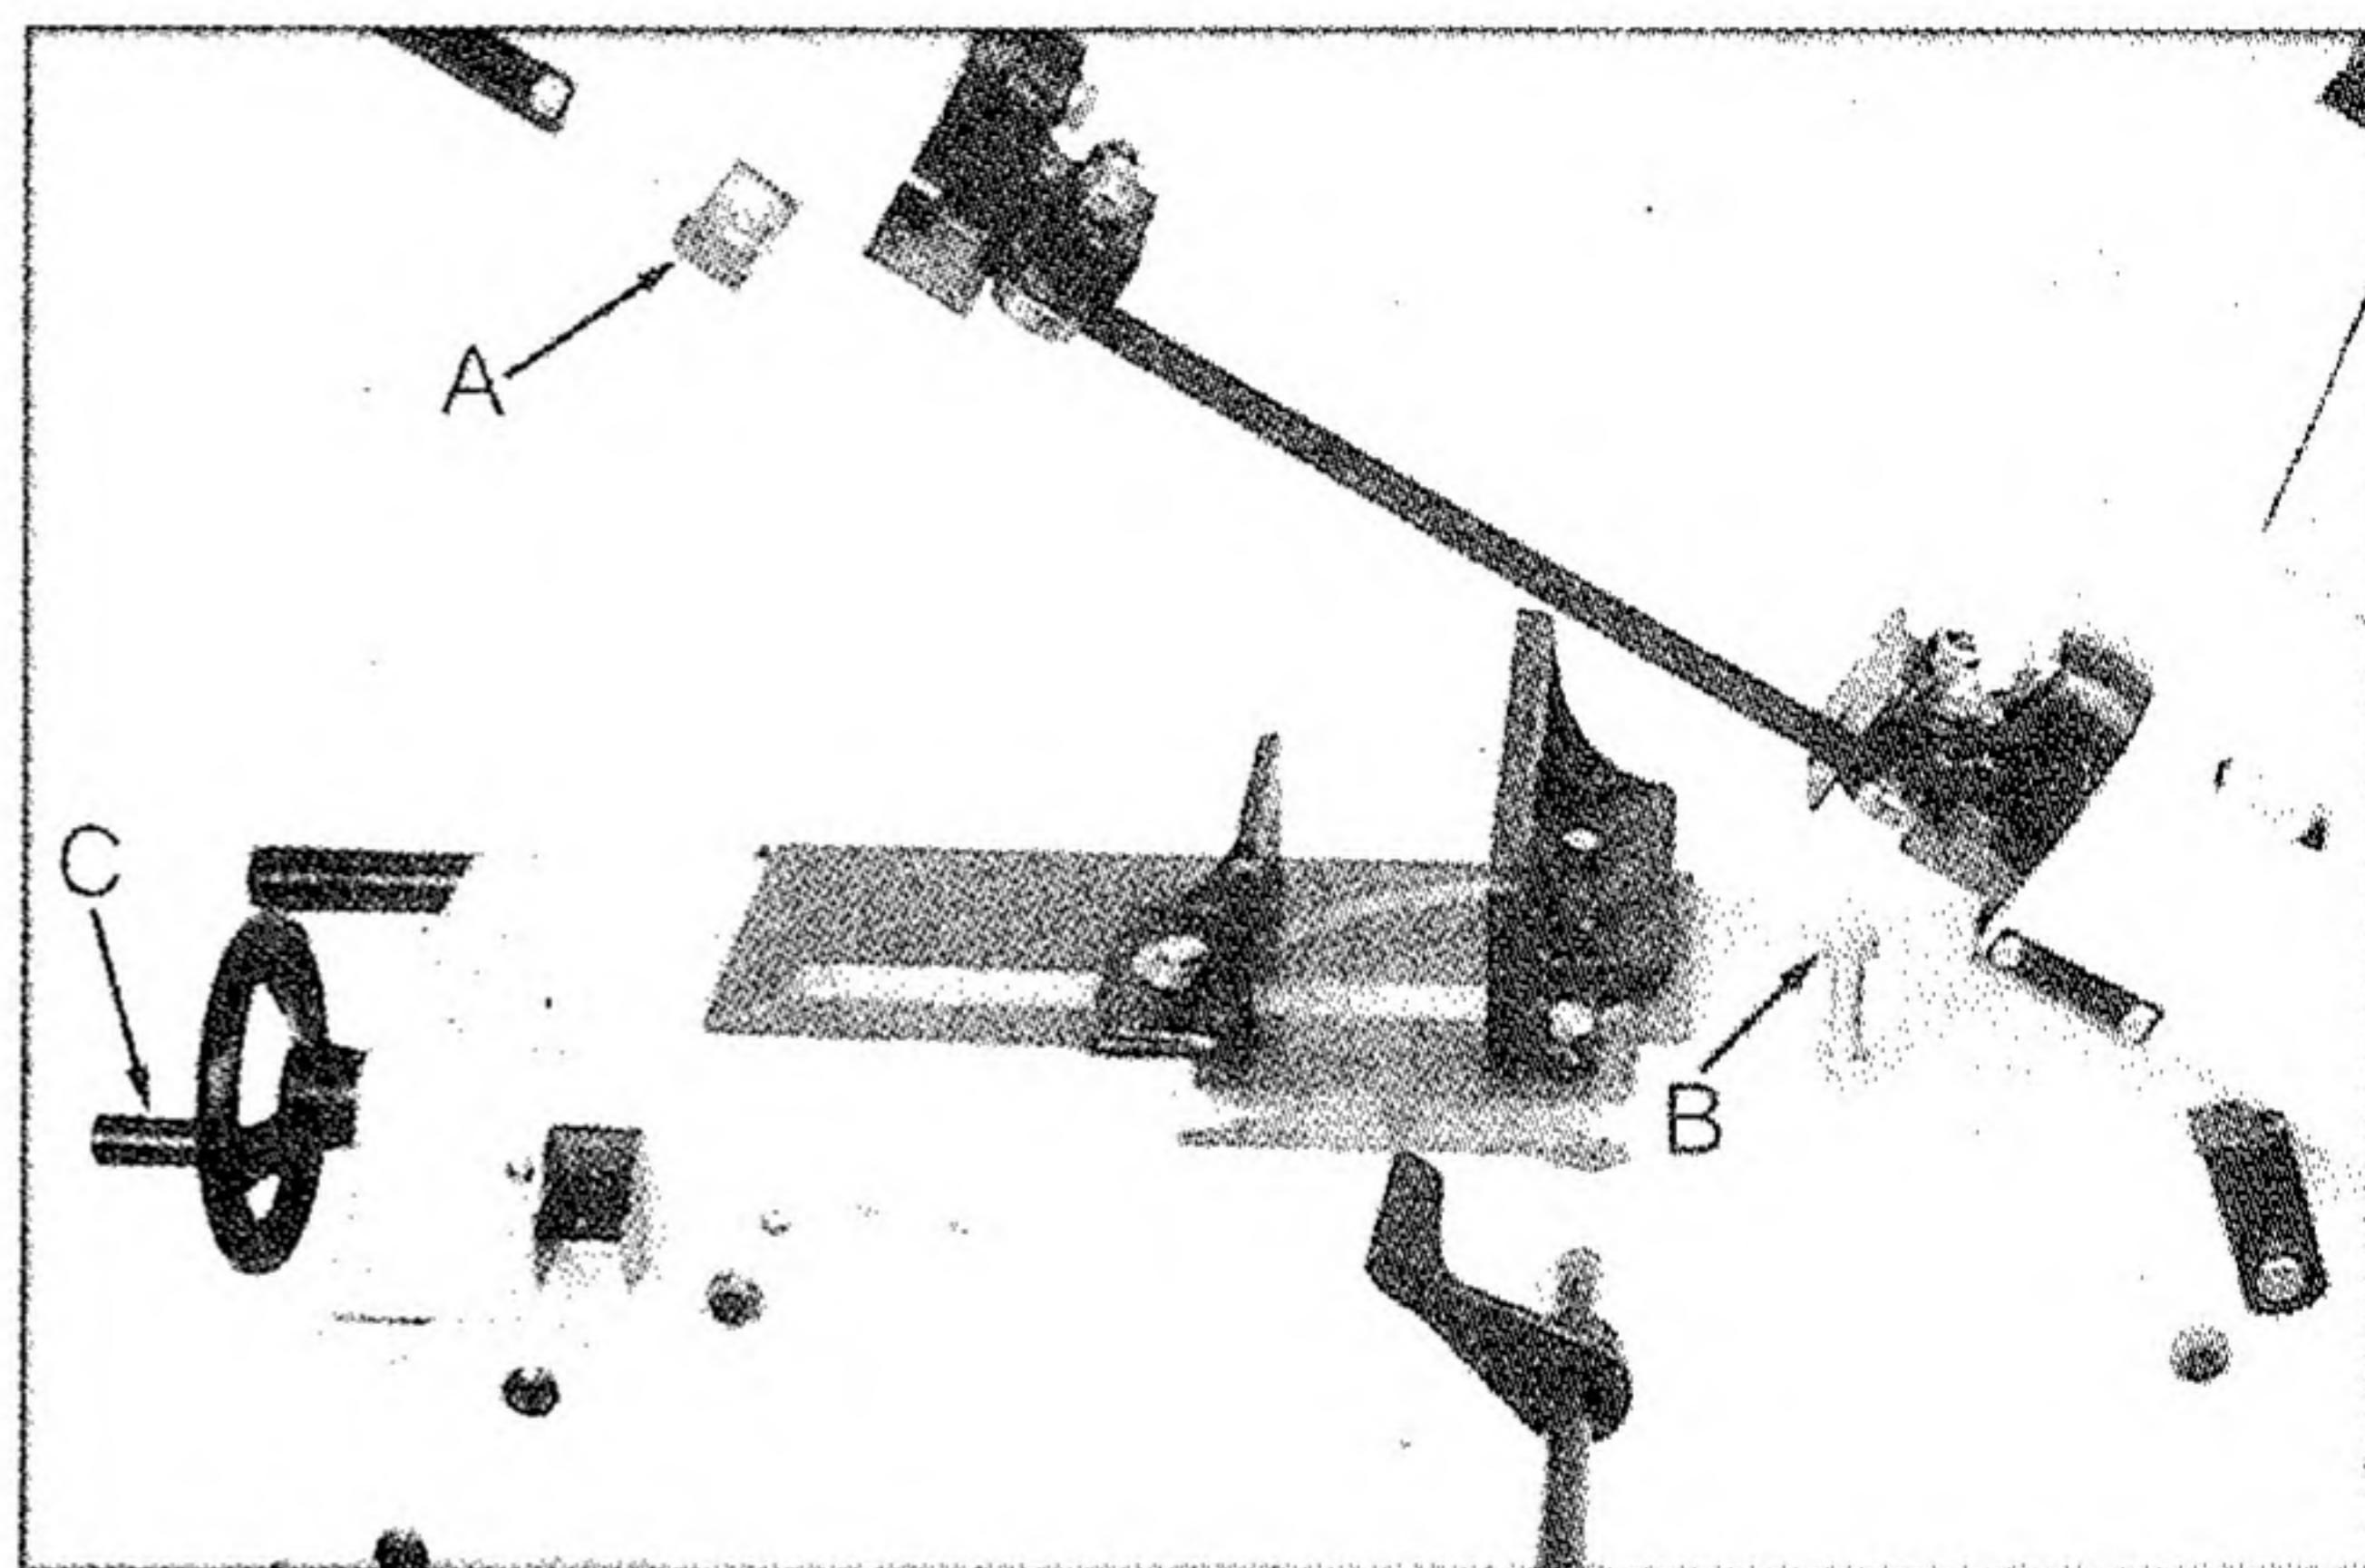

Fig. 17
- If the saw completes the cut and continues to run, adjust the stop tip (A, Fig. 17) down.
- If the saw shuts off before the cut is complete, adjust the stop tip (A, Fig. 17) up.
- If the saw stops cutting but continues to run, adjust the stop bolt (B, fig. 17) down.